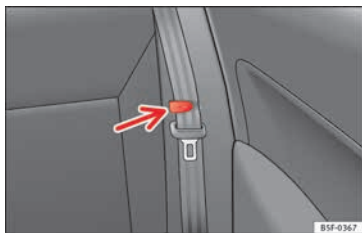

Fig. 148 Clip to support the seat belt.
- Place the side seat belts in the trim clip » **Fig. 148**.